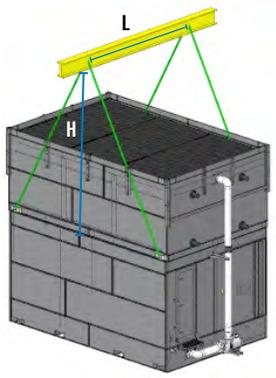

Figure 1. Single-Piece Lift
**WARNING:** Single piece lift is ONLY possible when total unit shipping weight is under 35,000 lbs. Please refer to the shipping weight shown on the Unit Print from submittal package. Single piece lifting must be done using lifting ears on the base of the upper casing section (See **Figure 1**).
Most single cell Vertex™ Evaporative Condenser products are designed to be lifted in one assembled piece as shown in **Figure 1**. Verify the total unit shipping weight is below 35,000 lbs before performing a single-piece lift. A two-piece lift is shown in **Figure 2**.
1. Remove any motors or accessories shipped in the cold water basin. Rig the basin section. The rigging hook must be placed above the section's center of gravity as detailed in **Figures 1 and 2**.